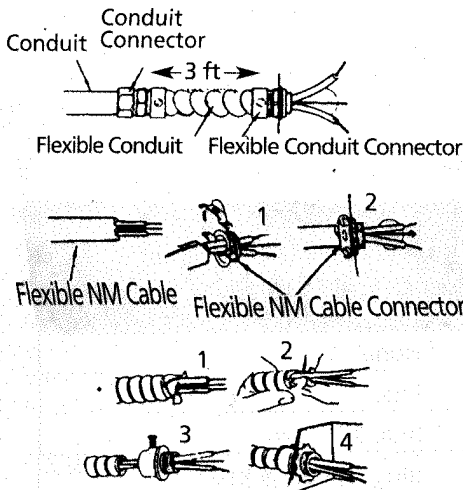

Figure 6 - Connectors, cable, and hardware used to wire the heater
2. Attach the cable connectors to the unit (See Figure 6) and slide the 10 gauge wire through the cable connector.
NOTE: For certain applications, conduit may be required (See Figure 6). Check local electrical codes. If you run the wiring in conduit and wish to be able to turn the heater be sure to purchase enough flexible conduit to allow the heater to be turned.